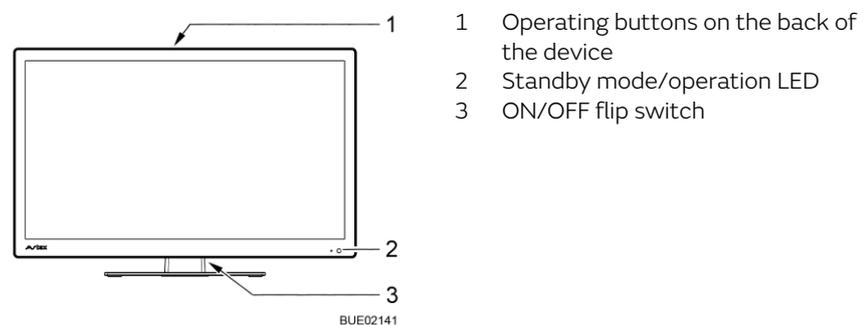
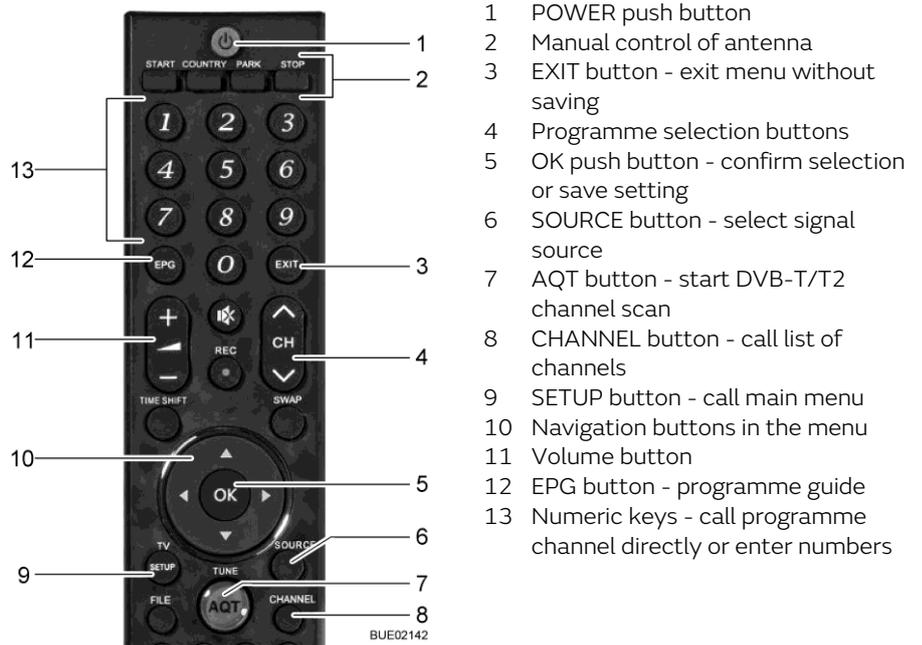

Fig. 47 Operation on the flat screen
Fig. 48 Remote control
- Set flip switch (Fig. 47,3) on the flat screen's back to ON. The system changes to standby mode. The LED (Fig. 47,2) is lit red.
- Press the POWER button (Fig. 48,1) on the remote control. The LED (Fig. 47,2) is lit blue.
- Press the programme selection buttons (Fig. 48,4 or Fig. 48,13) until the desired TV programme has been selected.
- Press the SOURCE button (Fig. 48,6) repeatedly until the desired signal source has been selected.
- Press the PARK button (Fig. 48,2). The antenna moves into parking position.
- Press the SOURCE button (Fig. 48,6) repeatedly until the desired signal source (e.g. DVD) has been selected.
- Press the POWER button (Fig. 48,1) on the remote control. The system changes to standby mode. The LED (Fig. 47,2) is lit red.
- Set flip switch (Fig. 47,3) on the flat screen's back to OFF.